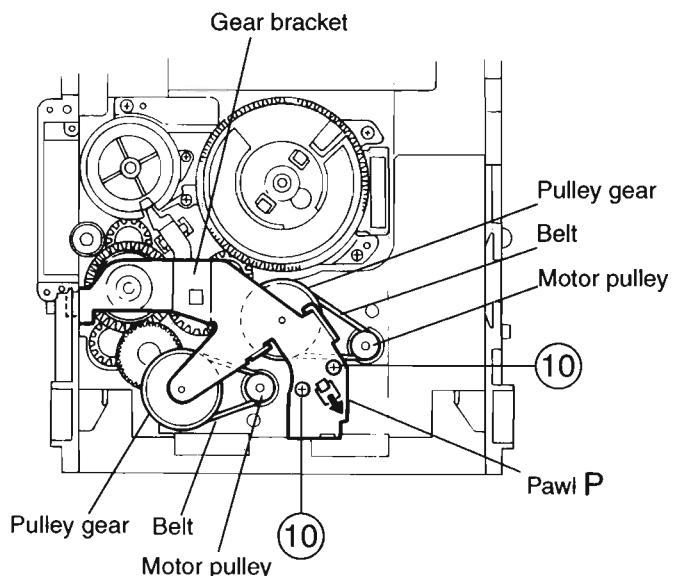

Fig.18
4. While turning the cam gear L, align the pawl "O" position of the select lever to the notch position(Fig.18) on the cam gear L.
5. Remove the four screws 9 retaining the cam unit(cam gear L and cams R1/R2 assembly)(See Fig.18).
■ Removing the actuator motor and belt (See Fig.18~21)